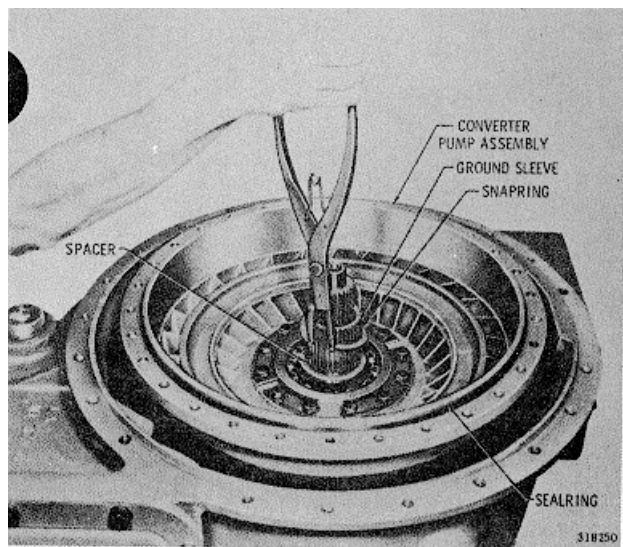

Fig. 7-47 Installing snapping onto the converter ground sleeve
(3) Install the splined washer and snapping to retain the pump assembly (fig. 7-47).
(4) Install the sealring near the outer bolt holes of the pump (fig. 7-47).